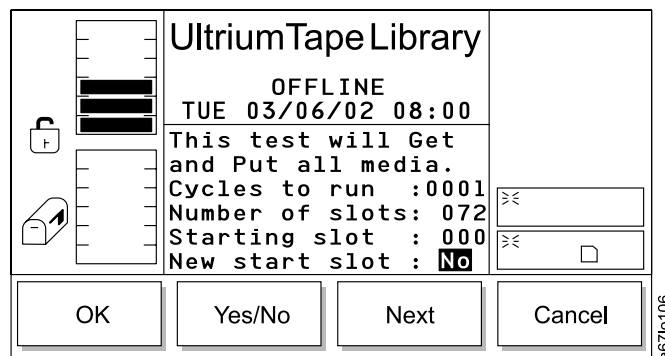

Figure 169. New Start Slot Dialog
- If **Next** is selected, the next field in the list becomes the active field. When the **Next** push button moves the field to New start slot, the New Start Slot Dialog displays (see Figure 169). After you reach the end of the field list, the active field reverts to the first field in the list.